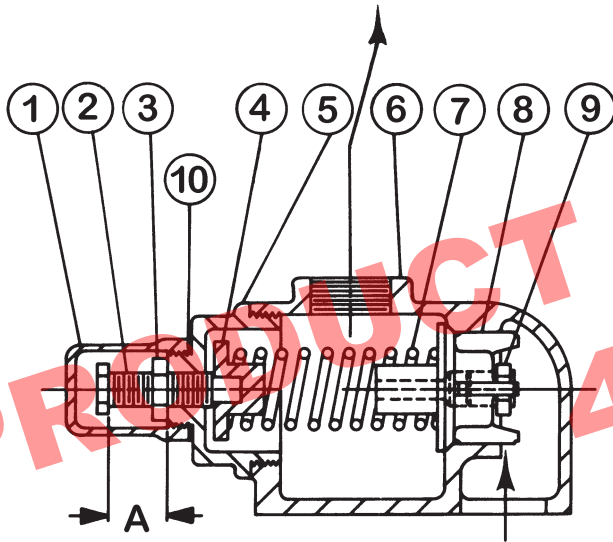

FIGURE 17
2. Measure and record the length of extension of the adjusting screw. Refer to "A" on Figure 17 and 18.
On "HL" size pumps equipped with Return-To-Tank pressure valves, (see figure 17) the cap should point towards the suction side of pump.